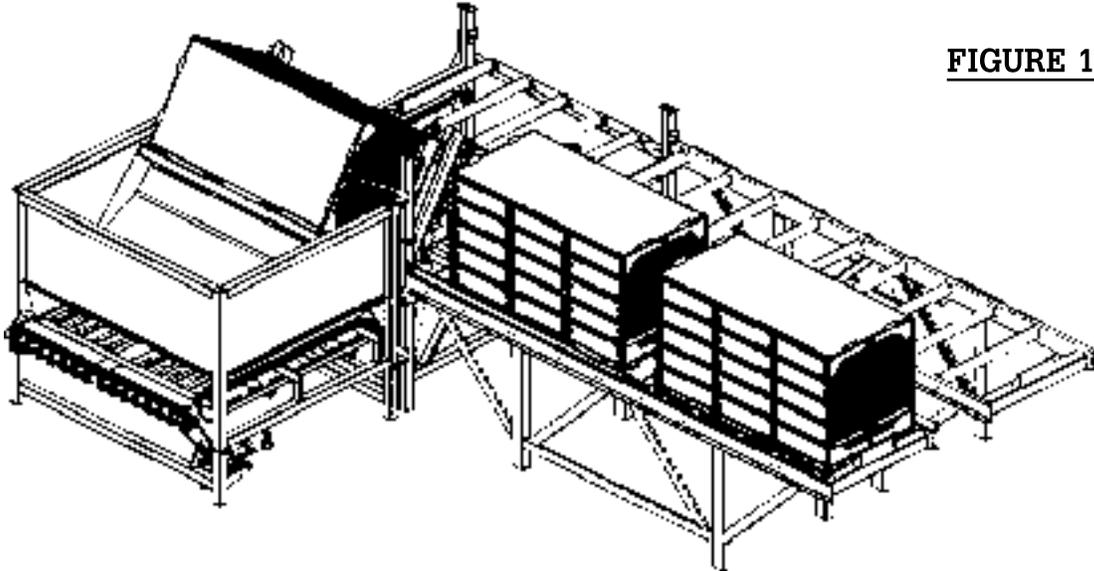

FIGURE 11
11. Pull the third (DUMPER TILT) hydraulic lever and hold it until the cradle cylinders are fully extended. The cylinders are fully extended when the cradle stops tilting upward. Then release the lever. (See Figure 11)